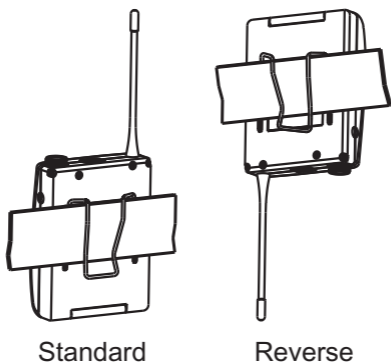

Fig.2
- ③ Transmitting Antenna.
- ④ Housing.
- ⑤ LCD Panel.
- ⑥ SET button.
- ⑦ MODE button.
- ⑧ Power Switch.
- ⑨ ACT Sync Window.
- ⑩ Battery Compartment.
- ⑪ Battery Cover.
- ⑫ Remote control mute connector.
- ⑬ Reversible Belt Clip, Fig. 2.
- ⑭ Battery Charging Contact. (Rechargeable)
- ⑮ Battery protection circuit reset button.